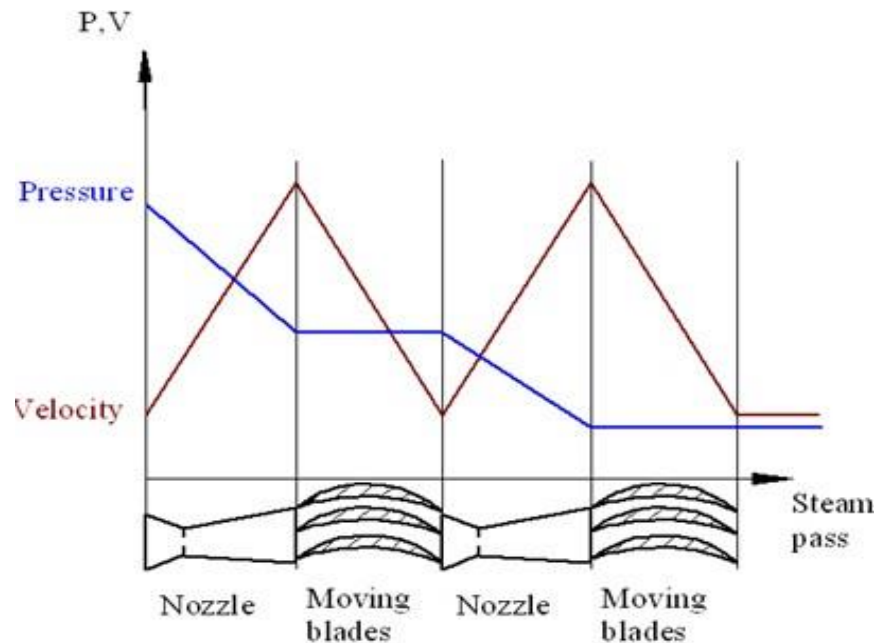

Fig. 4.4 Two stage pressure compounded impulse turbine.
**Answer:** If a number of simple impulse stages arranged in series is known as pressure compounding. The arrangement contains one set of nozzles (fixed blades) at the entry of each row of moving blades. The total pressure drop doesn't take place in the first row of nozzles, but divided equally between all the nozzles as shown in figure 4.4.